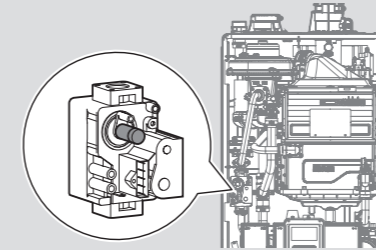

Figure 8. Set Screw Location
- c. Activate multiple zones and set the boiler to operate at 1-stage MIN mode. Measure the CO₂ value at low fire. If the CO₂ value is not within 0.5% of the value listed in Table 2, the gas valve set screw will need to be adjusted. If adjustment is necessary, locate the set screw as shown in Figure 8. Using a ⁵/₃₂ in or 4 mm Allen wrench, turn the set screw no more than ¹/₄ turn clockwise to raise or counterclockwise to lower the CO₂ value.